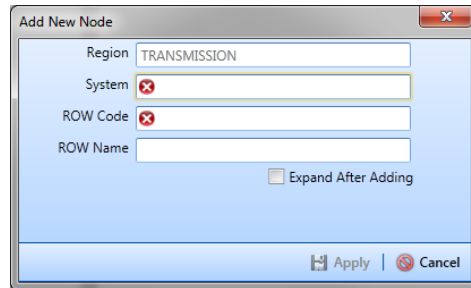

Figure 4-2. Add New Node
- 3 Click **+ Add** to open the *Add New Node* dialog box (Figure 4-2, page 141).